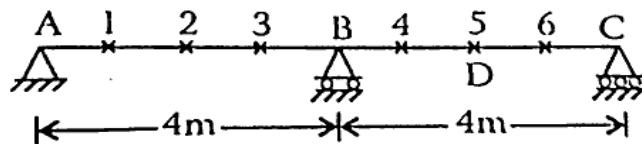

Fig. 4/चित्र 4
6. Calculate the ordinates of influence line for moment at mid-span of span BC for the beam shown in Fig. 4, at 1 m interval and draw influence line diagram. Assume moment of inertia to be constant throughout.